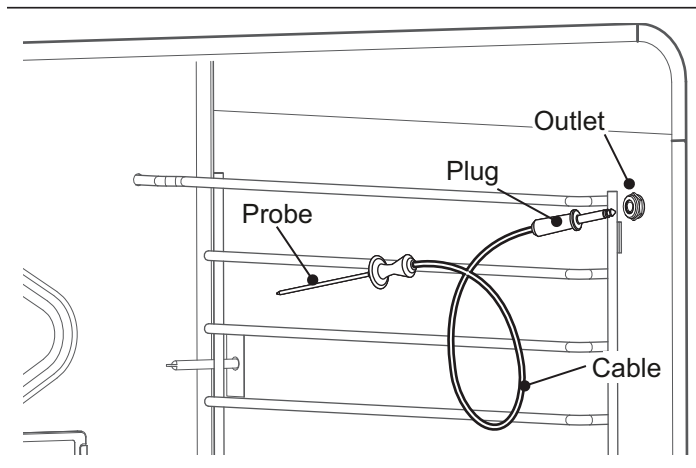

Figure 25: Meat Probe
- In the large oven, or in the small oven on select models, locate the outlet (Figure 25).